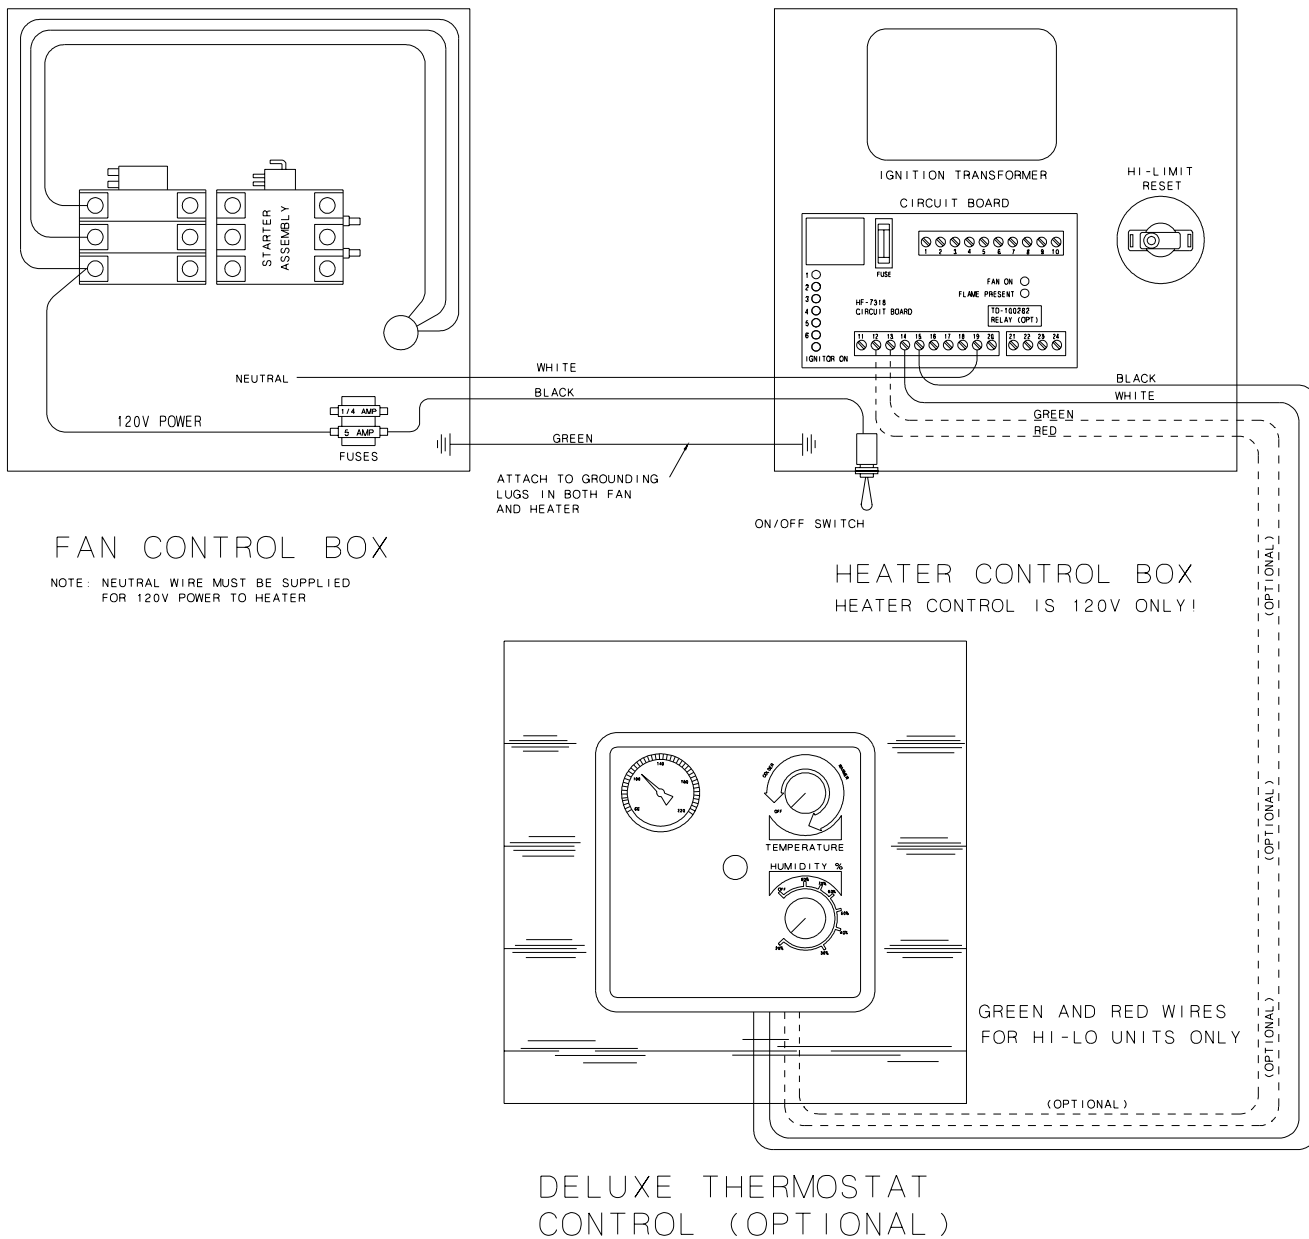

Figure 1: 230 volt fan control box.
2. Make field connections of wires in fan box as shown in Figure 1.
3. Connect deluxe thermostat control (optional) in heater box as shown in Figure 1.